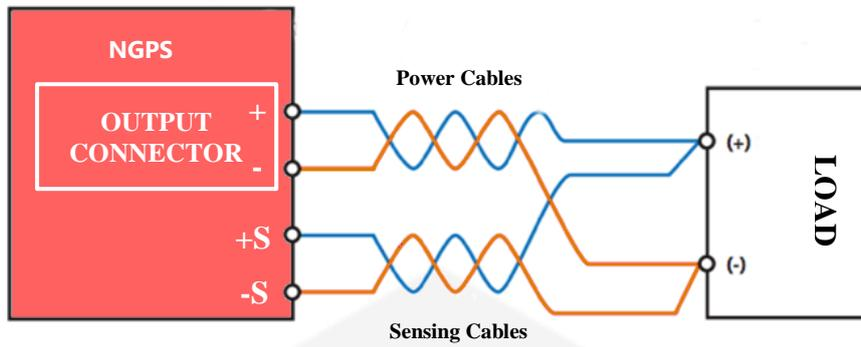

Figure 6: Example of Remote Sensing
3. Using a twisted pair or shielded cable (suggested wire size is 0.3 or 0.5 mm²) connect the +S terminal to the positive output terminal and the -S to the negative output terminal as illustrated in **Figure 6**.
In order to perform remote sensing at different points – e.g. the load terminals – it would be necessary to connect Pin #1 and Pin #4 as in **Figure 6**: